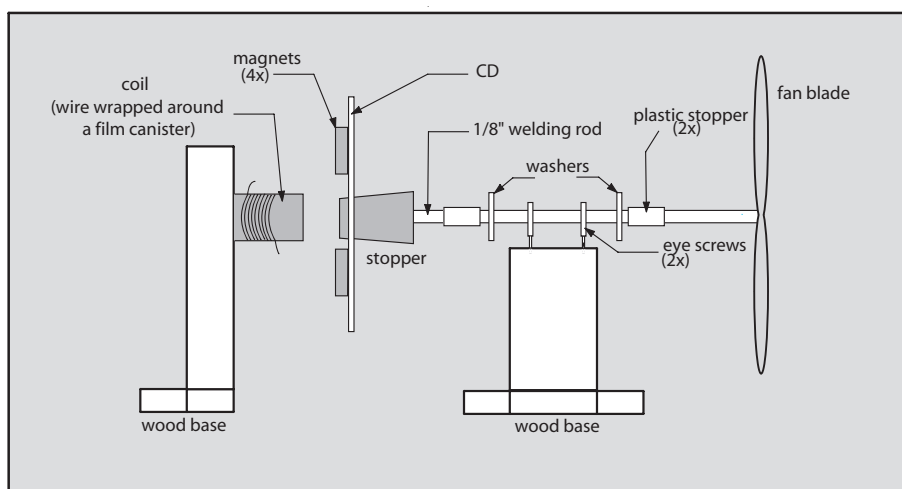

Figure 5. Basic components of the wind generator
9. Place the coil mount next to the CD, making sure that when the CD is rotated, the magnets travel across the path of the coil but do not actually touch the coil (see Figure 5). Note: It is important that the coil and the magnets pass very closely as the device is rotated.